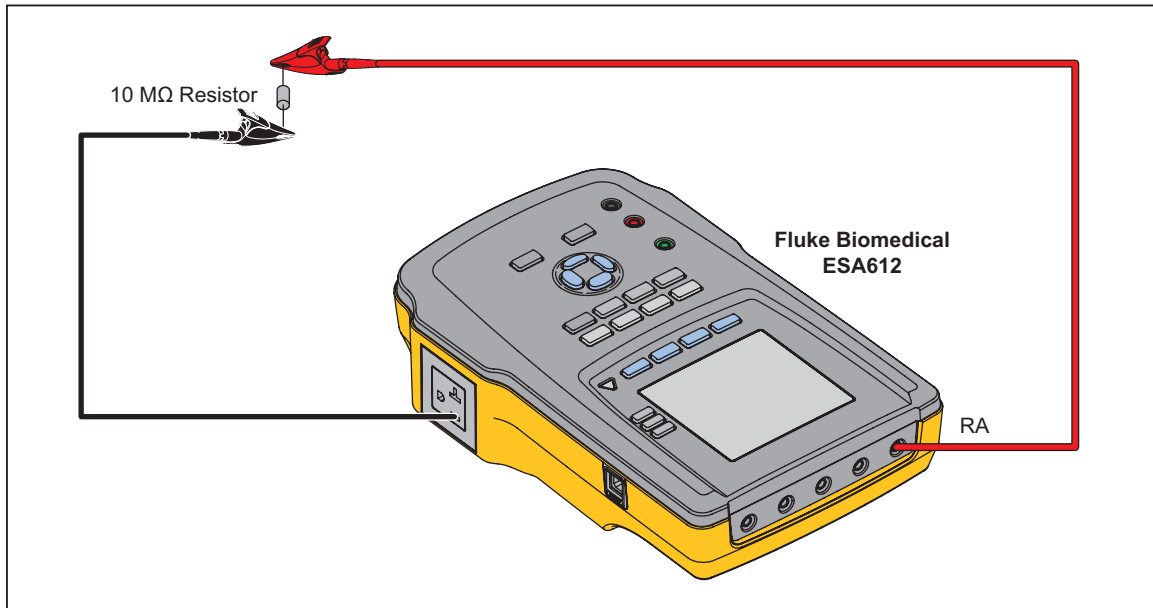

Figure 3-12. Mains to AP Verification Connections
67. With the EO Hot still connected to one side of a 10 M Ω resistor, connect the other side of the resistor to the RA Applied Part as shown in Figure 3-12.